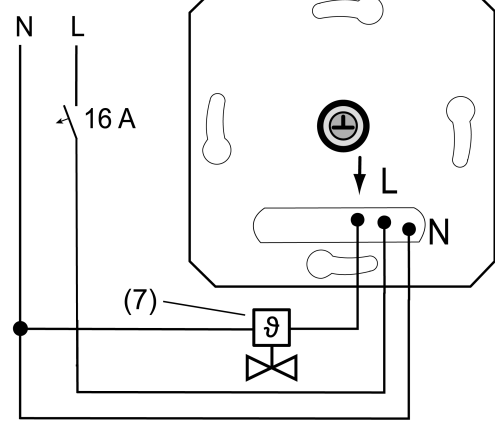

Figure 2: Connection example of the insert
- Connect electrothermal valve drive (7) to insert (1) according to connection diagram (Figure 2). Observe the conductor cross-sections (Figure 3).